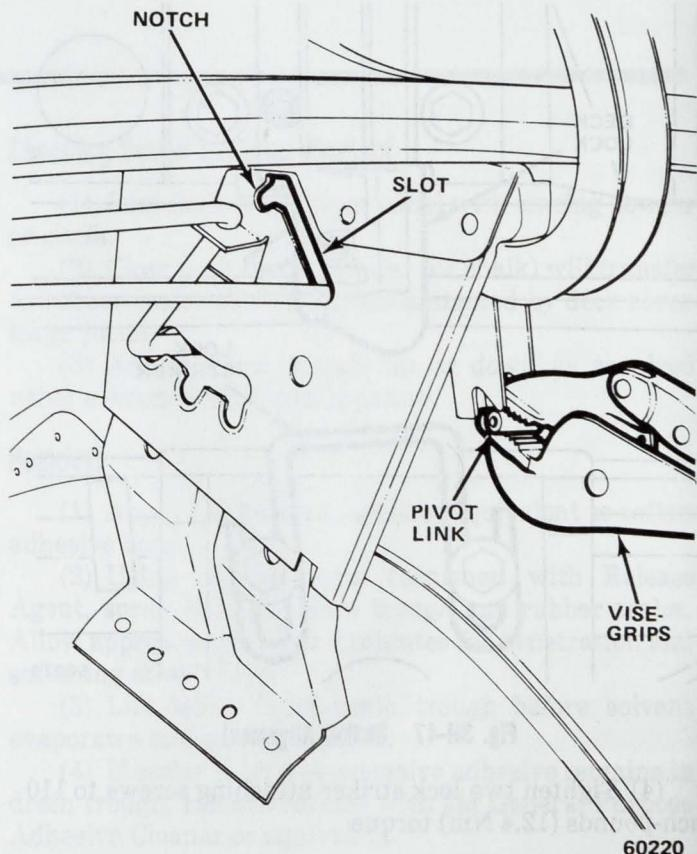

Fig. 3H-51 Torsion Rod Removal—Nonadjustable End
- (4) Attach Vise-Grip pliers to nonadjustable end of rod (fig. 3H-51).
(5) Push down and forward on Vise-Grip pliers, at same time disengaging rod from notch at top, then lower rod to bottom of vertical slot.
(6) Disengage and swing pivot link forward and allow rod to rest against hinge arm.
(7) Clamp Vise-Grip pliers to adjustable end of rod and pivot rod forward and out of notched retainer. At same time, flex rod forward and down to bypass retainer (fig. 3H-50).
(8) Slide rod toward opposite side.
(9) Unhook rod from hinge bracket and remove.